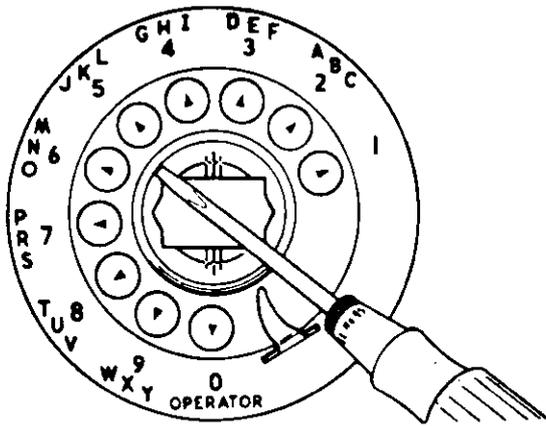

Figure 3. Escutcheon Removal, A.E. Co.
- (1) Using a small pocket screwdriver, hold the blade parallel to the fingerwheel and insert the tip of the screwdriver between the escutcheon ring and the acetate disc which covers the number card.
- (2) Pass the screwdriver tip under the edge of the ring at a point midway between the 5/JKL and 6/MNO holes (see Figure 3).
- (3) With the tip of the blade seated against the outer wall of the escutcheon ring, gently apply force upward and outward until the latch releases with a click. Lift the escutcheon assembly clear of the fingerwheel.